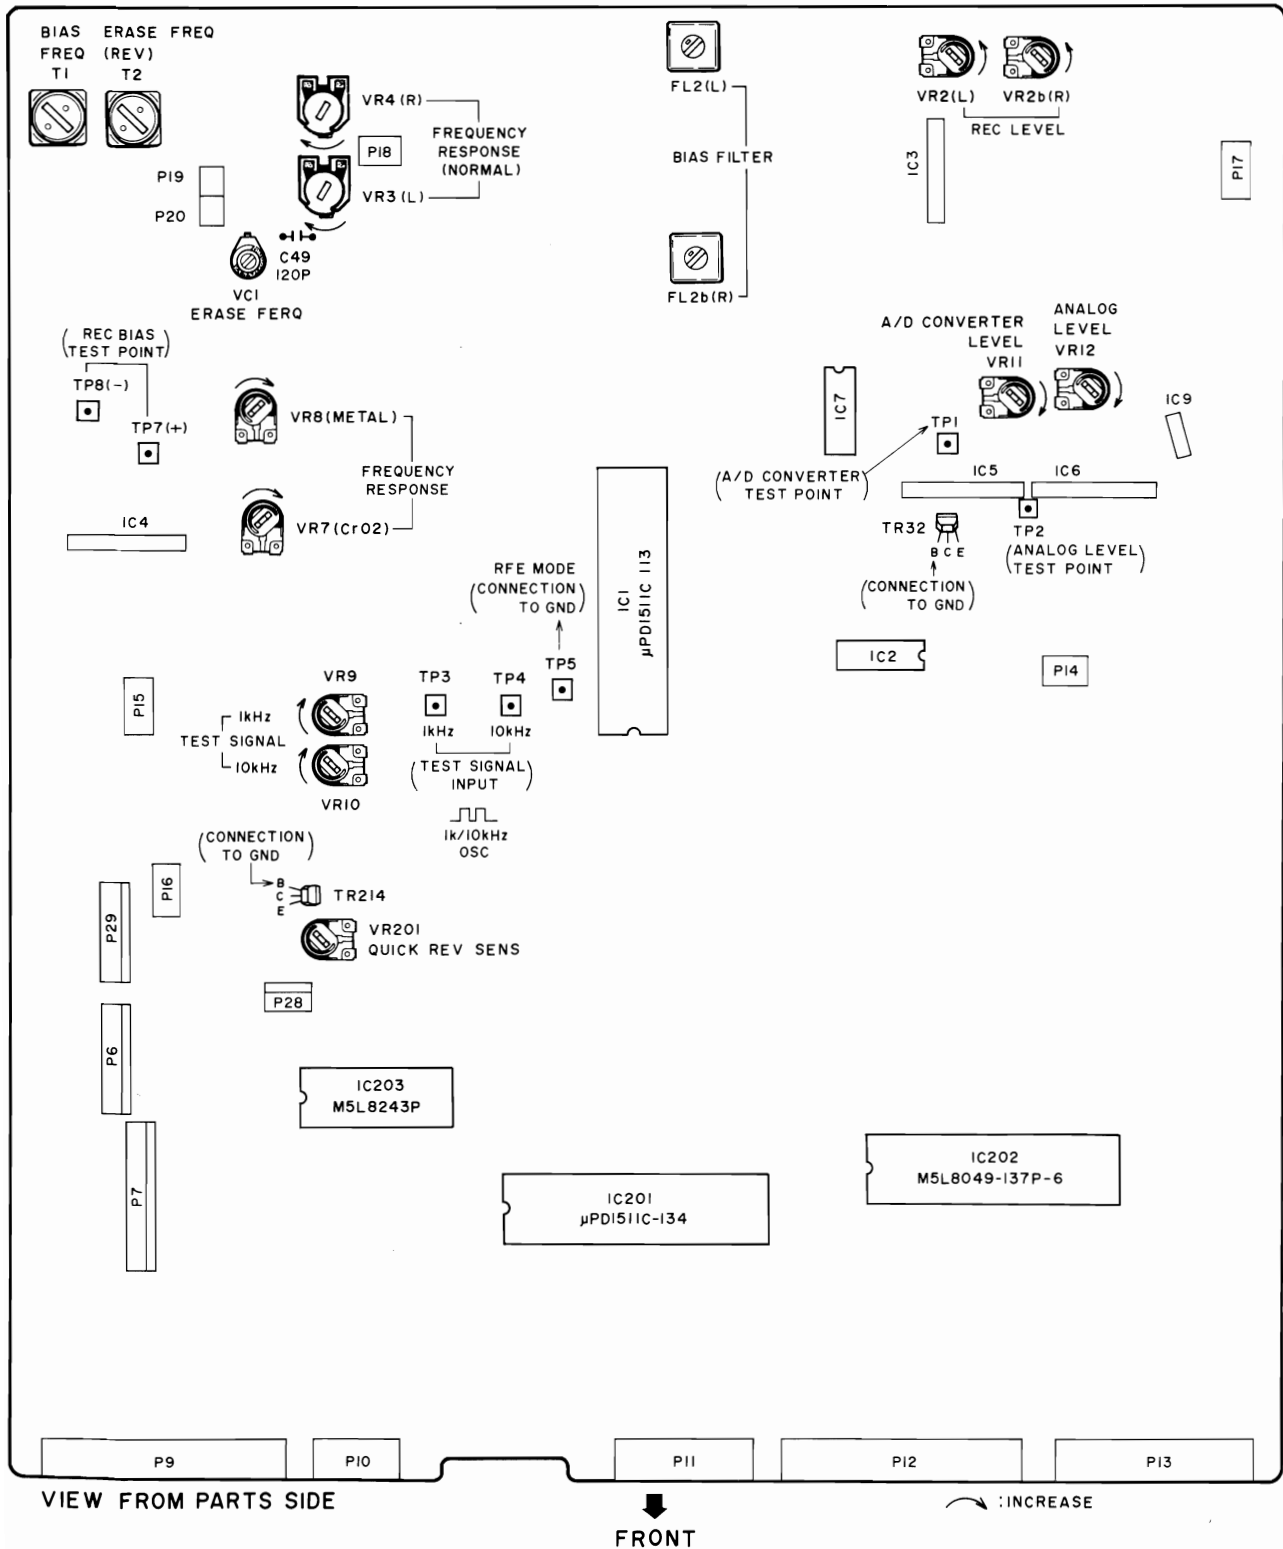

Fig. 7-3 Sys-con & Tuning P.C Board
b. Refer to Fig. 7-3 for tuning adjustment.
c. Source signal will be mute in REF mode, unless J25 pin ② is disconnected.
- Using the tapeless cassette pack, adjust VR201 (on TUNING & SYS-CON PCB, refer to Fig. 7-3) so that the Digital Voltmeter readings 4.30 V ± 0.05 V DC at FWD play mode.